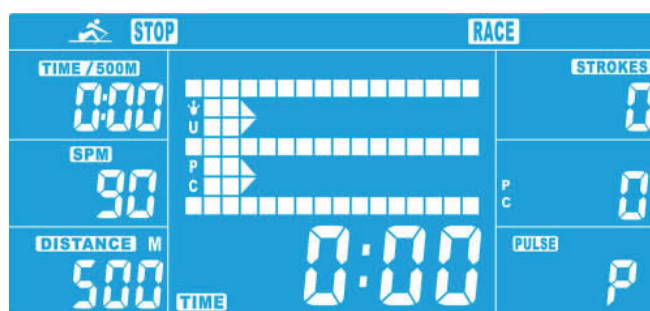

Figure 11
2. Press the UP or DOWN button to set a value for SPM (the pre-set value is 10) and DISTANCE (the pre-set value is 500) (fig. 11). Confirm with the ENTER button.